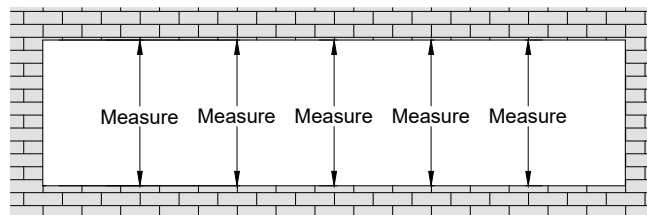

Fig.18.3
- D. Measure the height of the opening (Rough Opening) at several points along the entire width of the opening. Select the smallest of these dimensions and subtract 1" to allow a minimum of 1/2" at sill and head for shim and caulking. **SEE Fig.18.3**